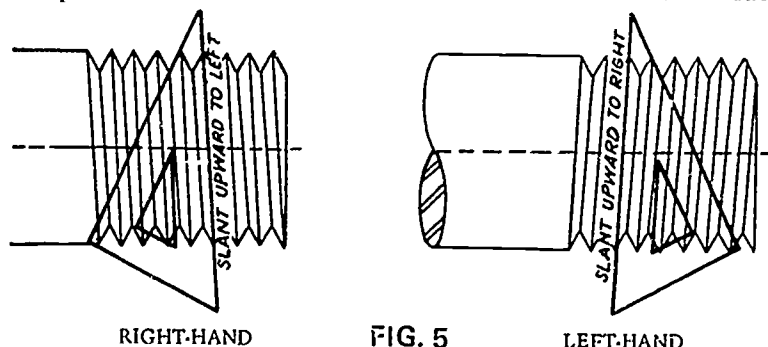

FIG. 5
On specifying the hand of threads, usually the right-hand is understood to be called for. If left-hand threads are required (where direction of rotation may cause the screw or bolt to loosen, as is the case of the wheel on an automobile), they are noted at the end of the thread specification. For example, a right-hand, $\frac{1}{2}$ " diameter, 13 thread per inch, National Coarse thread would be listed as follows: $\frac{1}{2}$ -13N.C., while the same thread in a left-hand would be specified: $\frac{1}{2}$ -13NC. — L.H. The hands of a thread can be identified as shown by Fig. 5.
2. Taking the straight edge as shown in Fig. 5, identify the hand of the various threads. Record next to type of thread.